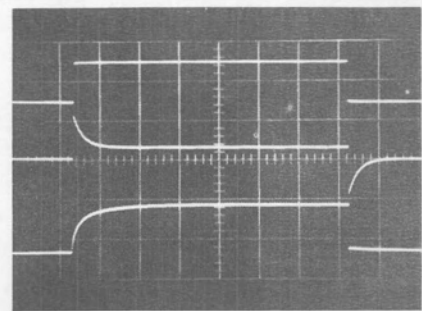

Fig 8—Derivative response effectively changes the circuit's time constant.
19. Initially, the multiplier's output responds to the derivative of the input step (signal); after the capacitor at the input settles from the step input, the output is filtered at a frequency determined by the input's dc potential. Fig 8 shows the effective time-constant